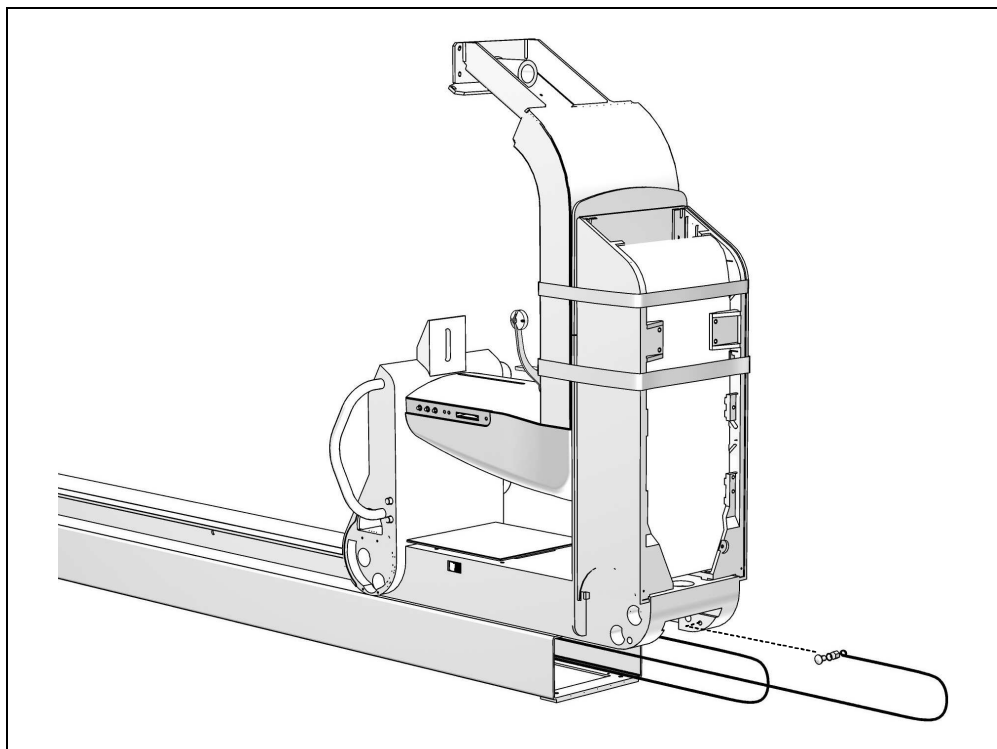

Figure 6-3
6. Align the motor group sliding bearings (108 lbs - 49 kg) with the appropriate guides; insert the unit (Figure 6-3), allowing only the last ten inches to extend from column. Care must be taken not to scratch the column.
7. Stretch the metal ropes, make sure that they are not crossed, curve the ends backwards and upwards and fasten them to the motor group with the appropriate screws, washers and spacers (Figure 6-3). Fully insert the motor group on the guide.